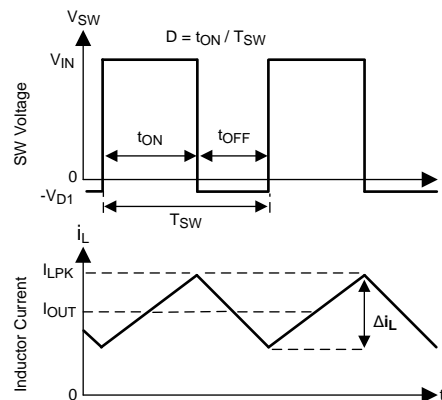

Figure 33. SW Node and Inductor Current Waveforms in Continuous Conduction Mode (CCM)
The following operating description of the LM46001 will refer to the Functional Block Diagram and to the waveforms in Figure 33. The LM46001 is a step-down Buck regulator with both high-side (HS) switch and low-side (LS) switch (synchronous rectifier) integrated. The LM46001 supplies a regulated output voltage by turning on the HS and LS NMOS switches with controlled ON time. During the HS switch ON time, the SW pin voltage V_{SW} swings up to approximately V_{IN} , and the inductor current i_L increases with a linear slope $(V_{IN} - V_{OUT}) / L$. When the HS switch is turned off by the control logic, the LS switch is turned on after a anti-shoot-through dead time. Inductor current discharges through the LS switch with a slope of $-V_{OUT} / L$. The control parameter of Buck converters are defined as Duty Cycle $D = t_{ON} / T_{SW}$, where t_{ON} is the HS switch ON time and T_{SW} is the switching period. The regulator control loop maintains a constant output voltage by adjusting the duty cycle D . In an ideal Buck converter, where losses are ignored, D is proportional to the output voltage and inversely proportional to the input voltage: $D = V_{OUT} / V_{IN}$.